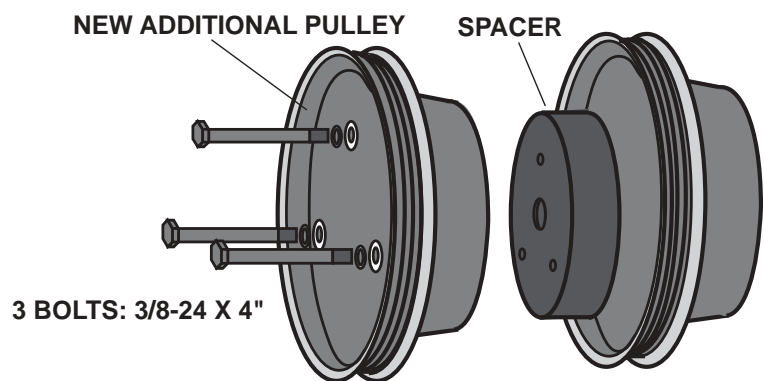

Fig. 2-a
- B. Place the Vortech provided crank pulley and spacer inside the stock pulley. (See Fig. 2-a.)
- D. Reinstall the pulleys as a unit onto the crankshaft balancer assembly using three 3/8-24 x 4" bolts and supplied 1/2-20 x 4" center bolt. (See Fig. 2-a.)